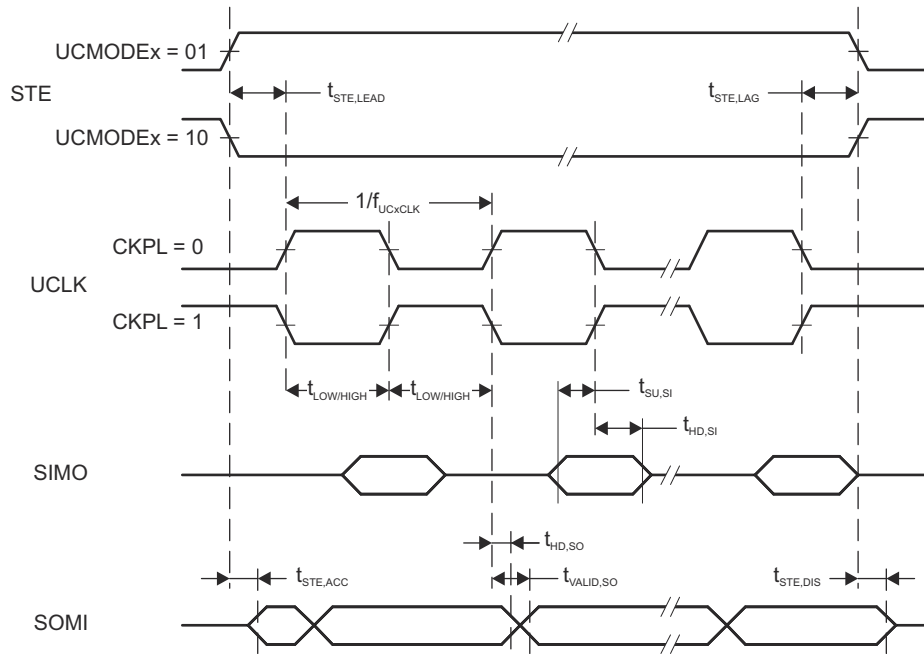
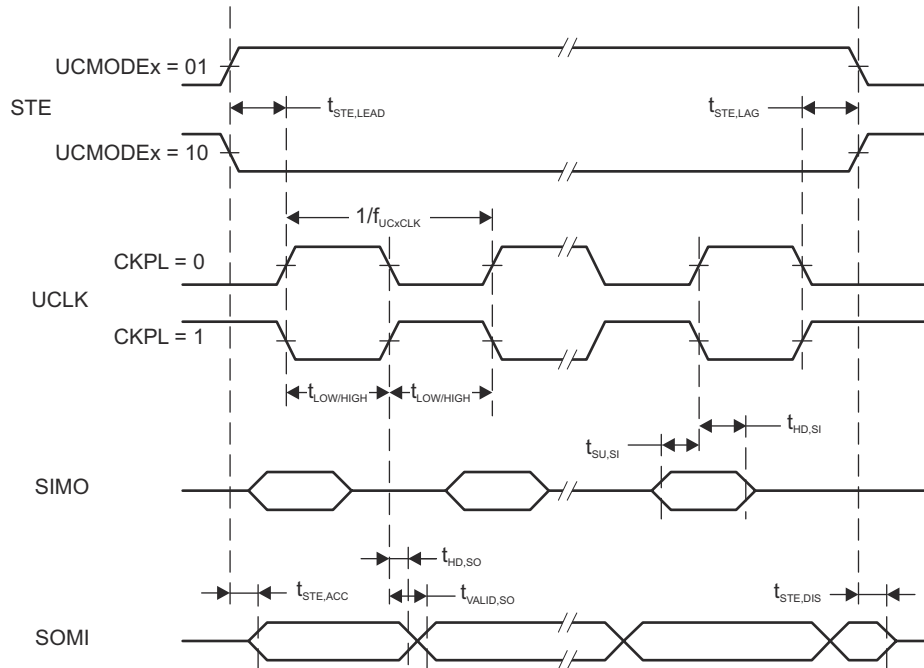

Figure 8-14. SPI Slave Mode, CKPH = 0
Figure 8-15. SPI Slave Mode, CKPH = 1
- (2) Specifies the time to drive the next valid data to the SOMI output after the output changing UCLK clock edge. See the timing diagrams in Figure 8-14 and Figure 8-15.
- (3) Specifies how long data on the SOMI output is valid after the output changing UCLK clock edge. See the timing diagrams in Figure 8-14 and Figure 8-15.